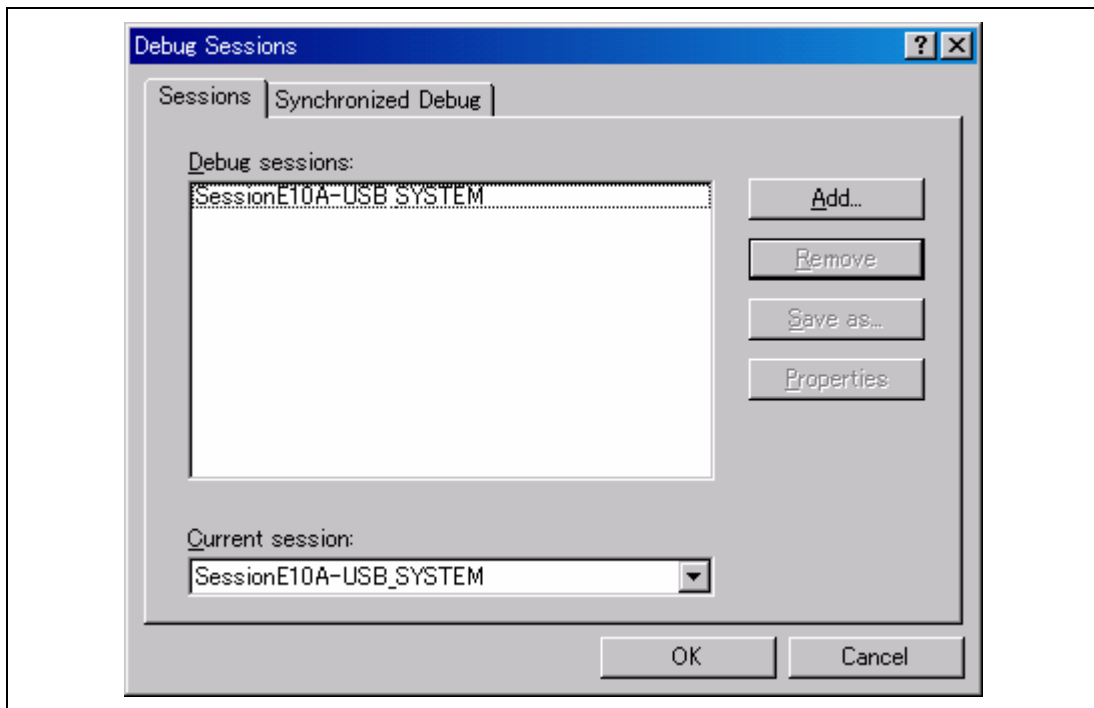

Figure 4.17 [Debug Sessions] Dialog Box
1. Select [Debug -> Debug Sessions...]. This will open the [Debug Sessions] dialog box (figure 4.17).
1. Select [Debug -> Debug Sessions...] to display the [Debug Sessions] dialog box (figure 4.17).